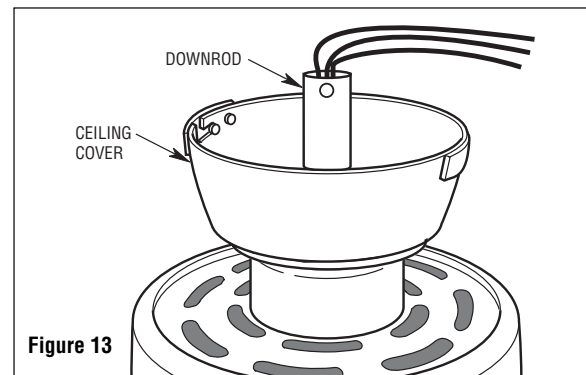

Figure 13
6. Place the ceiling cover over the downrod. Be sure it is oriented correctly (Figure 13).